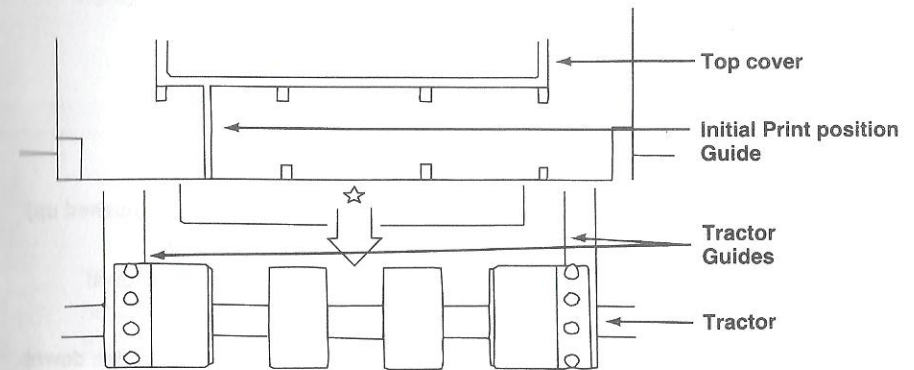

Figure 2-9. Inserting Paper in Top Rear
- Insert the paper in the direction marked by the star shown in Figure 2-9. Then, move the tractor so that the width of the paper falls within the left and right tractor guides. (Refer to the section on the tractor feed for information on how to move the tractor.)
As shown in Figure 2-9, there is a line on the top cover which indicates the initial printing position. Position the paper using this line as a guide.